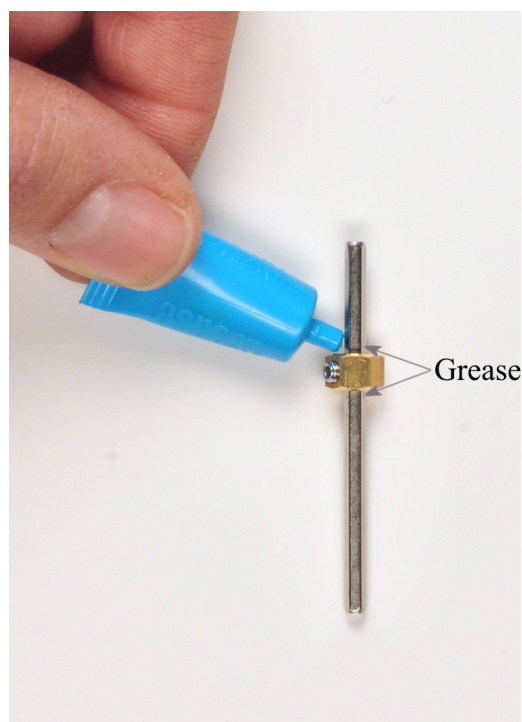

Figure 1.12
6. Carefully apply a small amount of grease to the hex shaft next to both sides of the gear hub, as shown in figure 1.12.